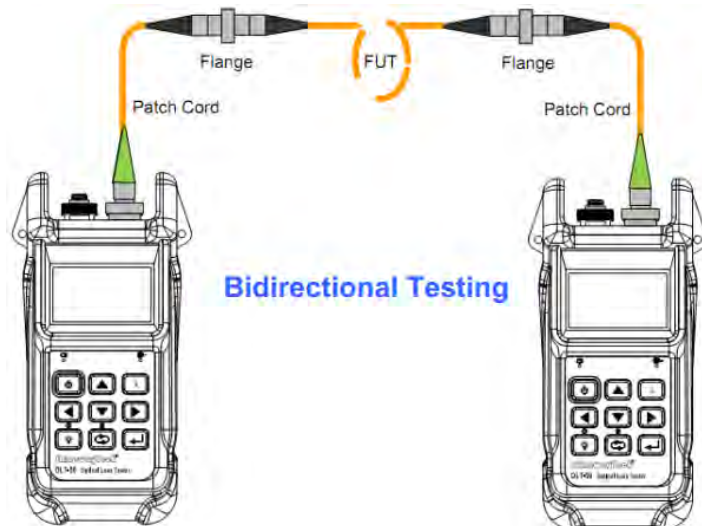

Figure 3.21
6. Toggle to [ BiDirTest ] sub-interface, connect measured fiber link as shown Figure 3.21, then select **Start** and then press , test is running, and then the test result will be displayed.